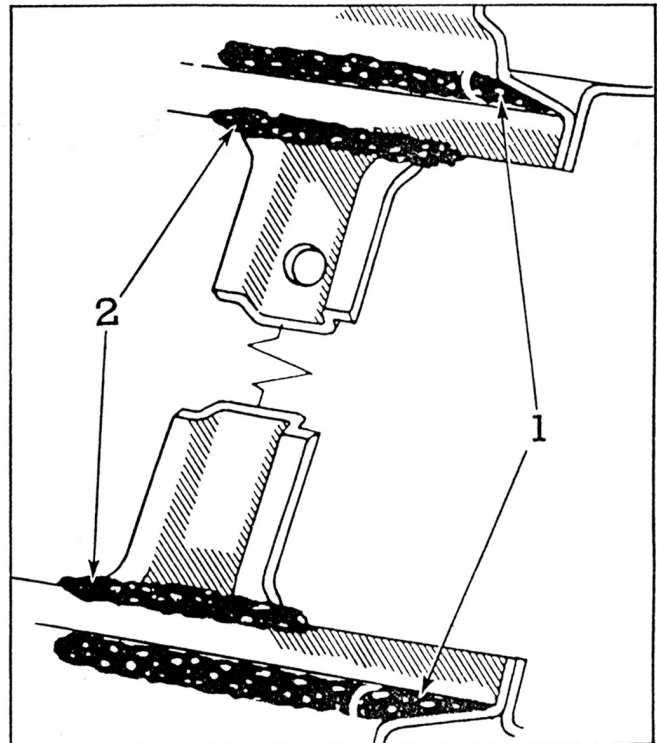

Fig. 16—Applying 3-M Autobody Sealer to Windshield Opening
1. Before installation, apply 3-M Autobody Sealer to the flanges of the windshield opening as indicated in Figure 16.